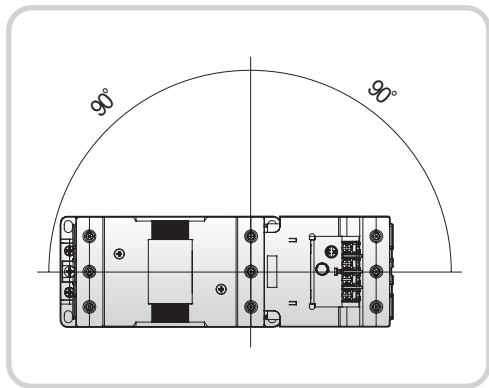

Fig. 13. Lateral installation
a) Please install with being rotated 90 degrees counterclockwise from standard installation direction as seen in figure 13. If you' re only using the magnetic contactor, any direction is okay.